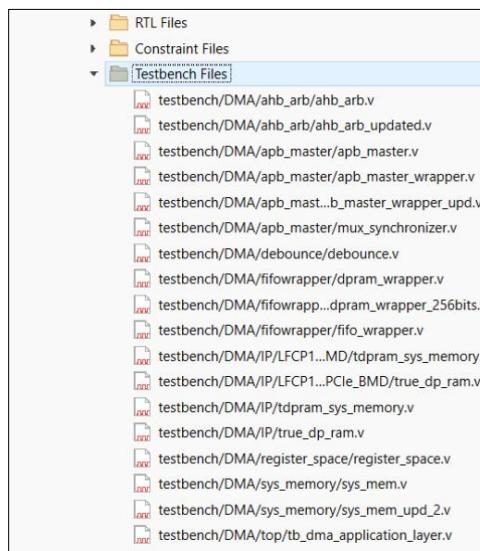

**Figure 7.15. Simulation Waveform**
13. The simulation run completion is indicated by *SIMULATION STATUS of ALL TESTS PASS* or *ERRORS DETECTED* in the QuestaSim transcript window. Figure 7.15 shows the example of a simulation waveform.